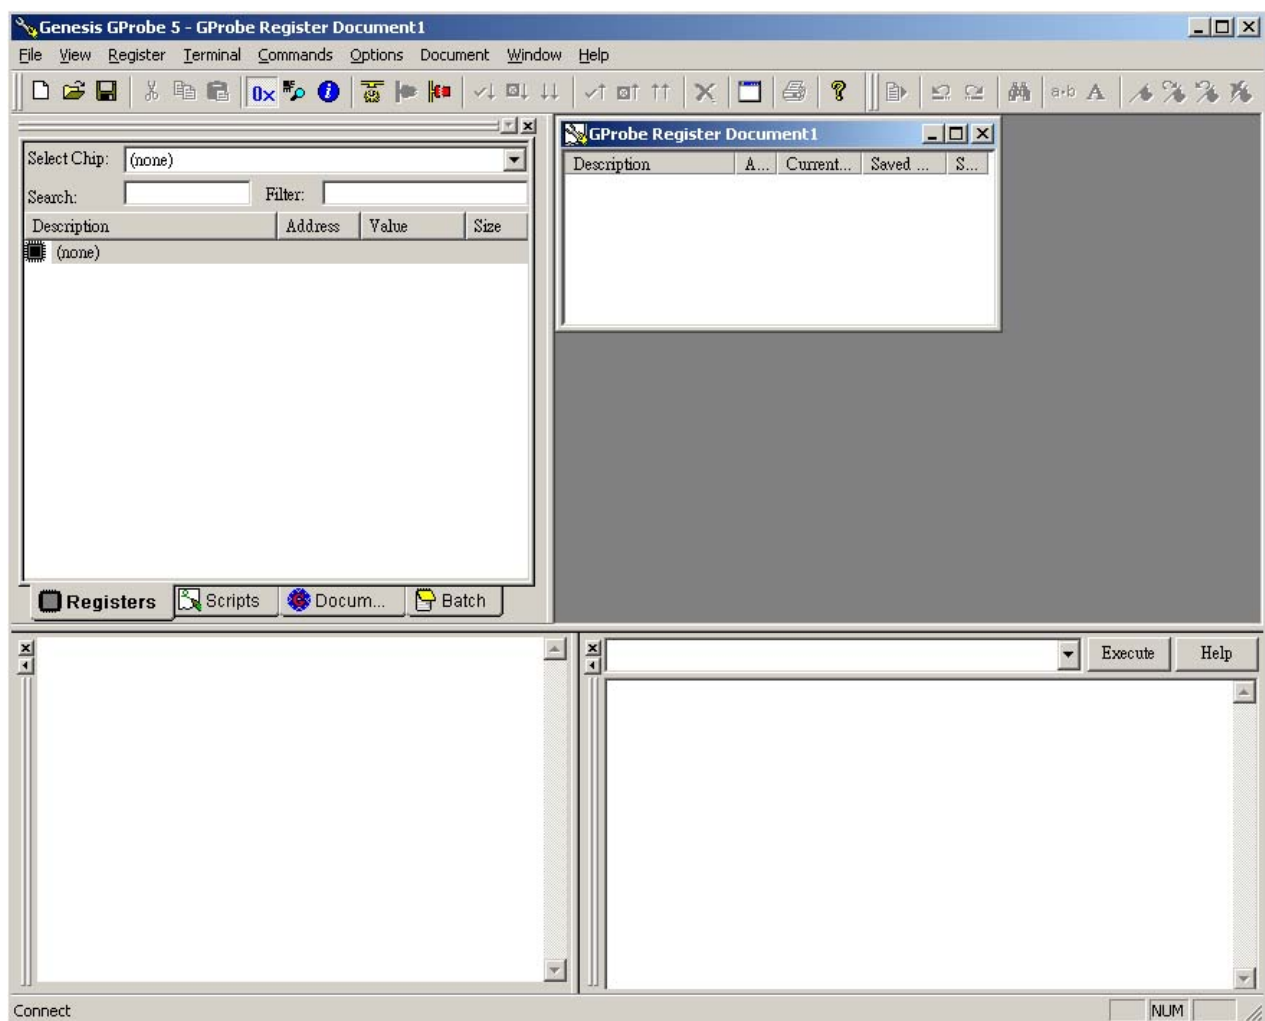

Fig. 1.2
1.2 Move your mouse cursor to GProbe 5 and click it. You will see the Fig. 1.2